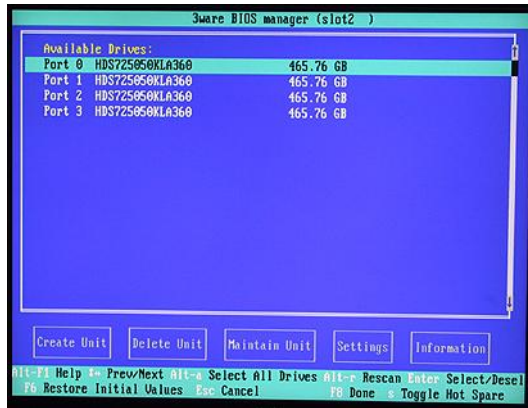

Figure 3-47
- 2) Press any key to continue, which will take you fully into the **3ware BIOS Manager**. Observe that the four disks are shown on the screen, but no drives are initially selected (Figure 3-47).